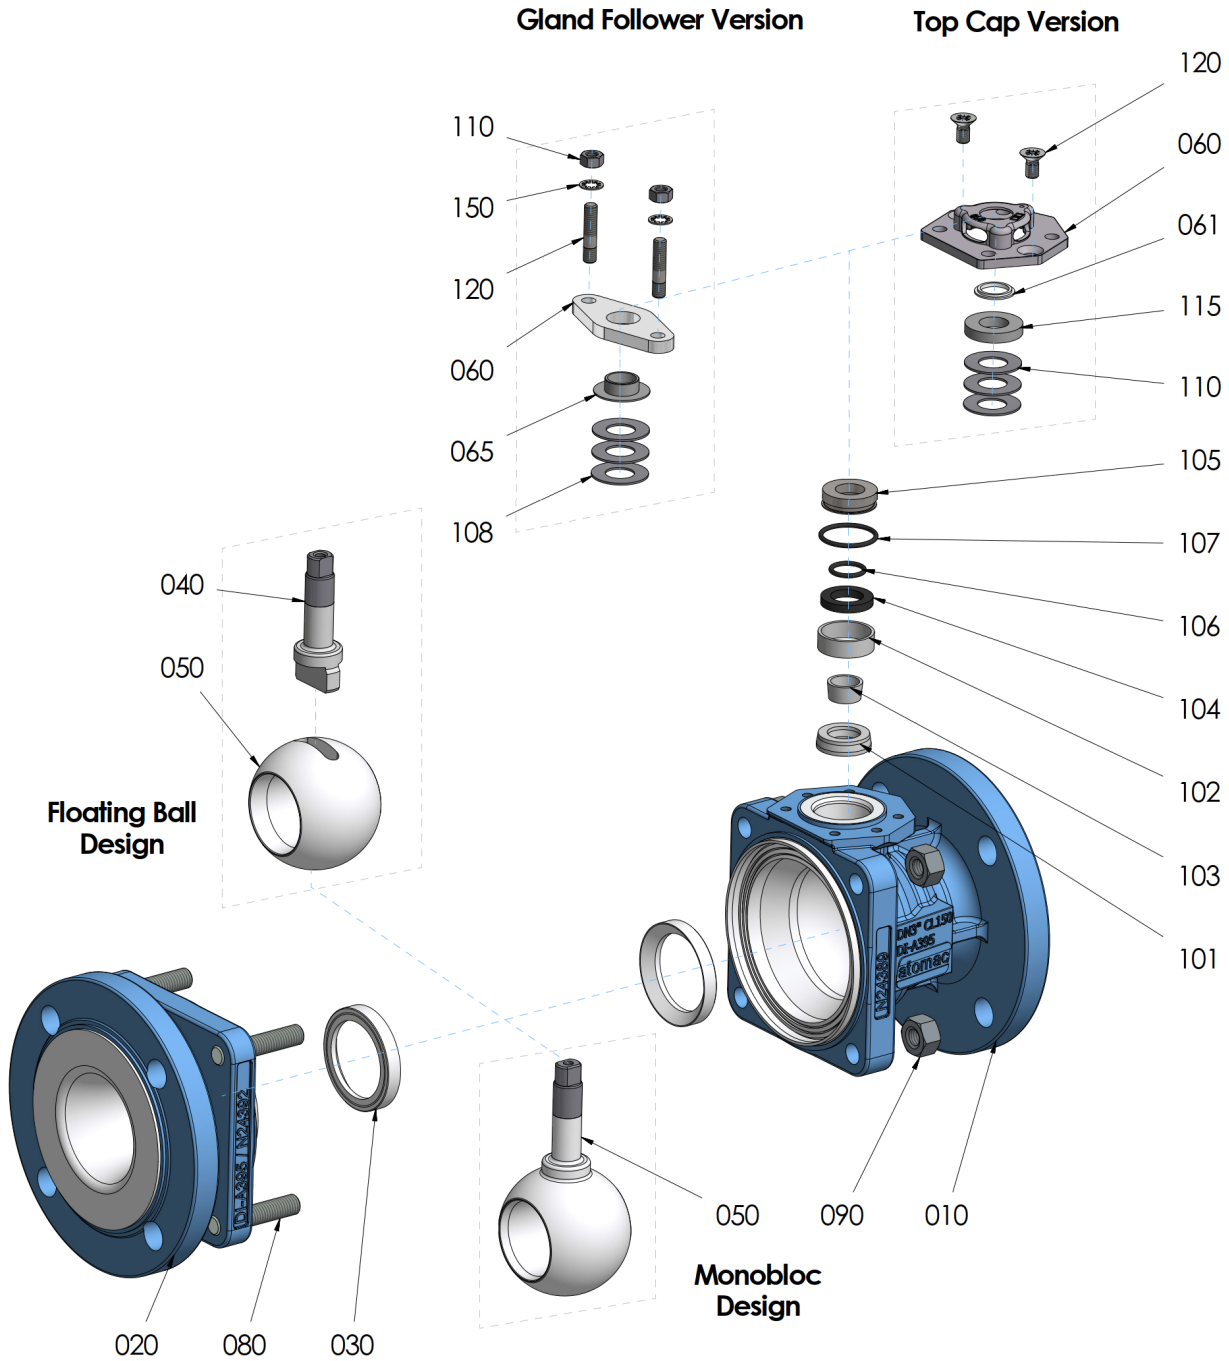

Figure 10: Exploded View
- Check packing nuts for proper tightness. Packing nuts should be slightly over finger-tight; however, tighten only as necessary to prevent stem leakage (see Figure 10 Pos. 110).
For the arrangement, designation and item numbers of all parts of the valve, see Figure 10 & Table 10. Spare parts are to be ordered with all the details in acc. With the valve identification. Only original spare parts may be installed. To prevent leaks, a regular check of the connection screws should be made in line with the operating requirements. For torques see Table 9 & Table 12.